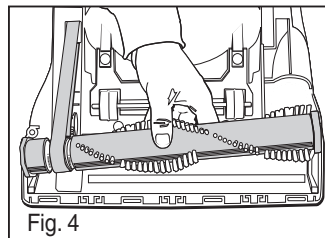

Fig. 4
- 5) Place new belt around motor shaft and brush roll. Insert left end of brush roll first (Fig. 4).
- 4) Twist to separate tube from hose (Fig. 4).
- 6) Twist to separate tube from hose (Fig. 4).
- 1) Re-attach both tubes to hoses (Fig. 4).